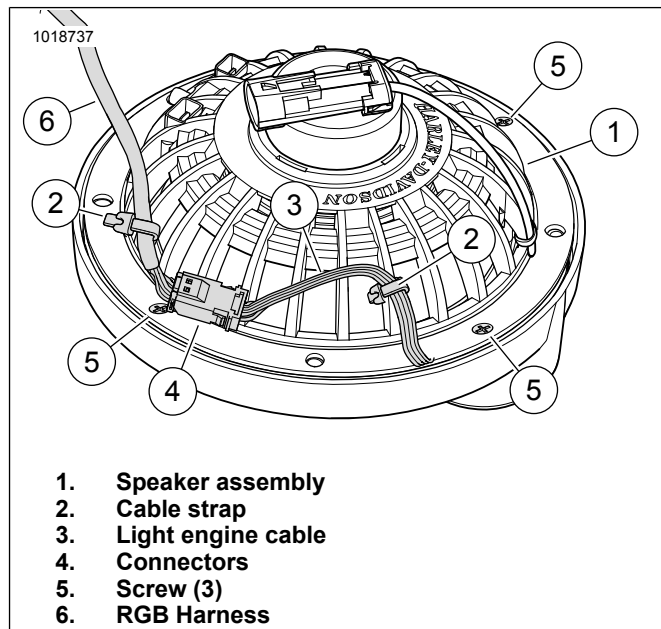

Figure 21. Speaker Back, Cable and Cable Strap
8. Route the cable (4) along tweeter bridge leg. Using the tape in kit, cut to length and secure cable to back of tweeter bridge.
9. See Figure 21. Assemble tweeter (4) and speaker (1) assemblies. Align holes for screws (5).
- a. Join connectors (4) from the light engine (3) to RGB harness (6).
- b. Route light engine cable (3) along the back of the speaker (1) as shown. To stabilize the connectors (4), secure light engine cable (3) and RGB harness (6) with cable straps (2) as shown.